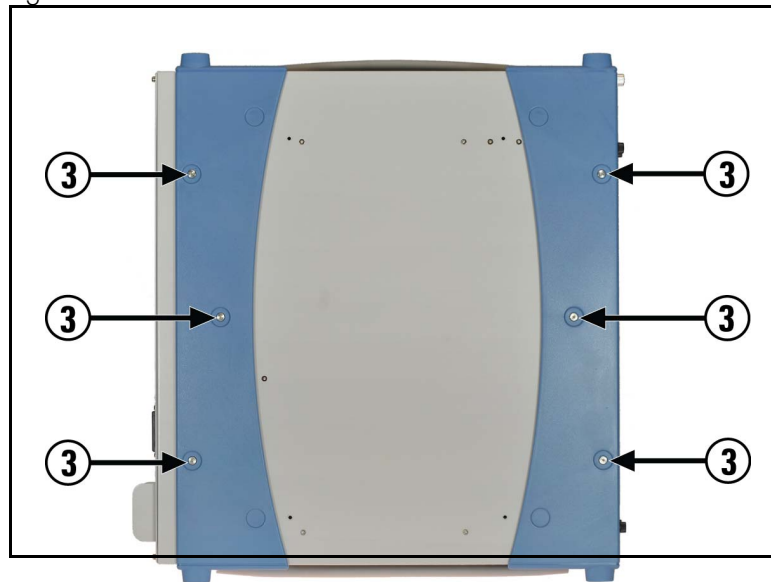

Figure 2 . Removing the Chassis Bumpers
- 3** Remove the three #1 Phillips flat head screws from the top of each bumper. See Figure 2.